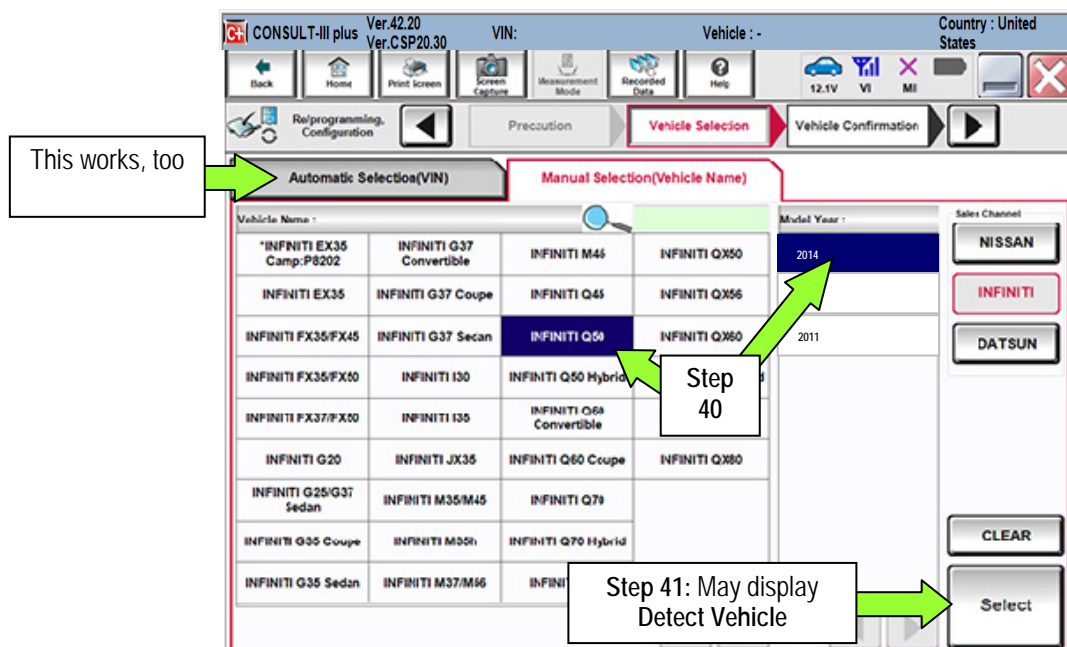

Figure 24
- If the screen in Figure 24 does not display, skip to step 41.